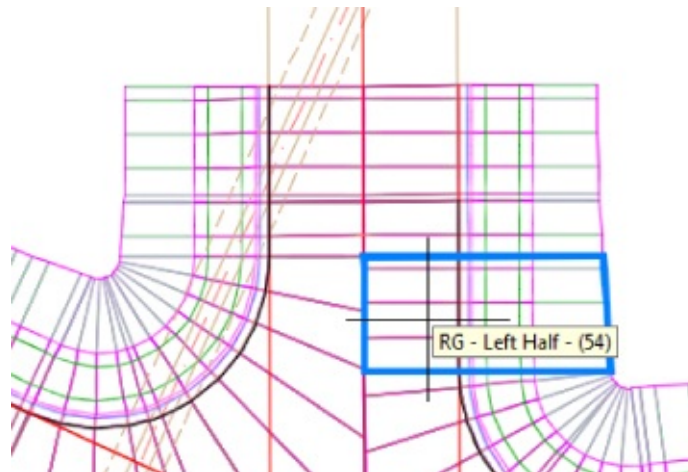

Figure 10.35 Selecting the RG - Left Half region along ROAD B north of the intersection
32. Select the RG - Left Half region in the north part of the intersection along ROAD B, as indicated by Figure 10.35.